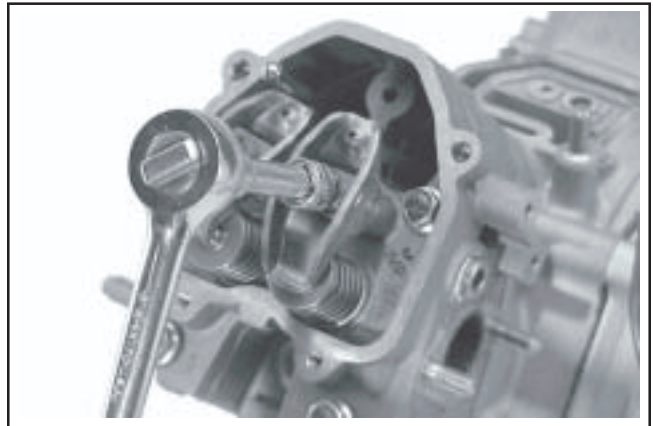

Figure 9-51. Loosening the Rocker Arm Screws.
1. Rotate the crankshaft of the engine until the valves of one cylinder are closed. Loosen the rocker arm screws until the rocker arms can be pivoted to free the push rods. See Figure 9-51.